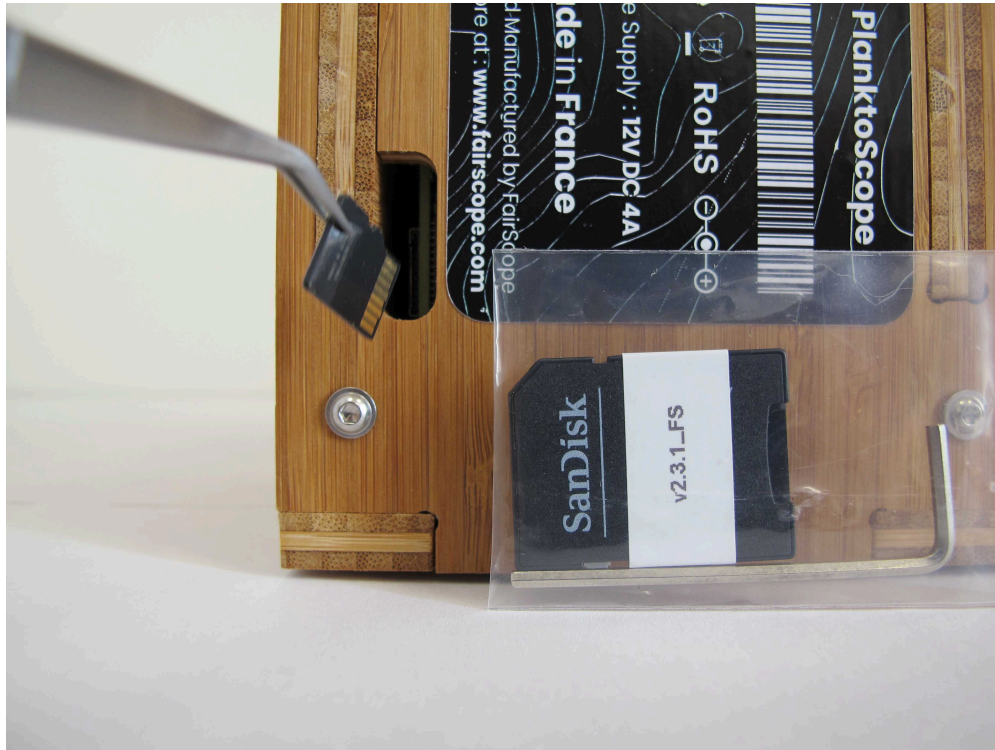

Figure 1: How to withdraw the micro SD card
3. Withdraw the micro SD card at the bottom of the PlanktoScope with a fine forceps (Fig.1)